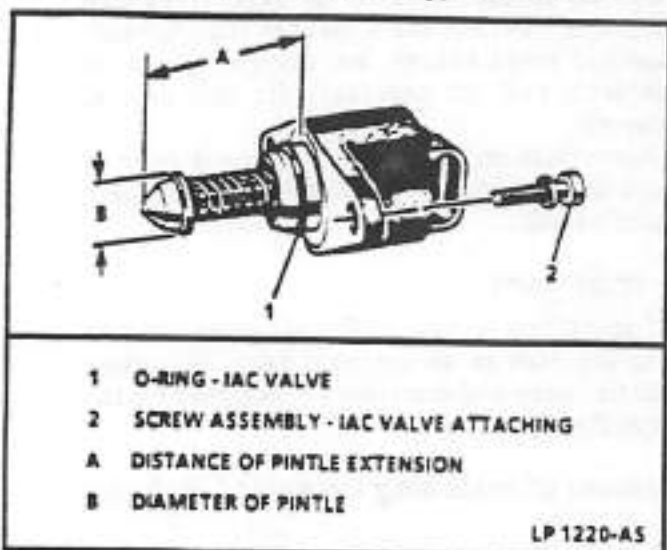

Figure 6 - Flange Mounted Type IAC Valve
- On flange-mounted units, remove screw assemblies (Figure 6).